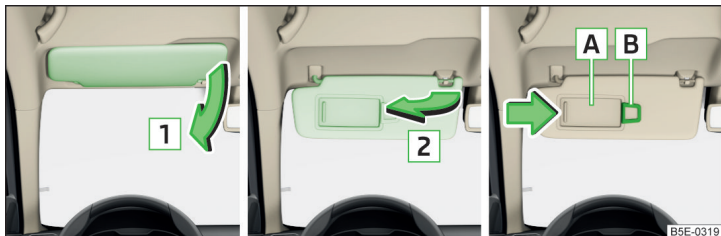

Fig. 78 Fold down visor / flip up visor / make-up mirror and Park Memo Holder
**Operation and description of the sun visor** » Fig. 78